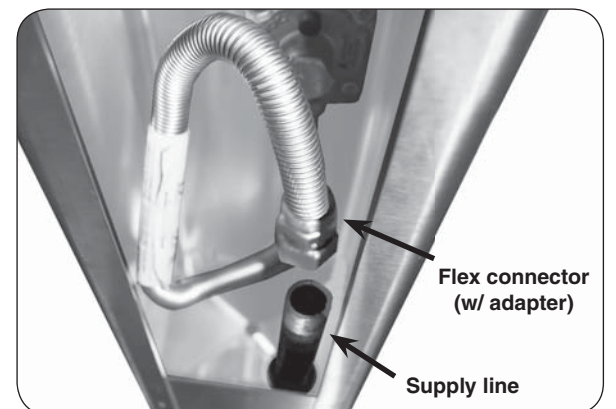

Fig. 18-3 Post interior detail
2. Verify that the gas supply line fits through the gas line clearance hole in the bottom of the post (see Fig. 18-3). The clearance hole is the larger of the two holes in the bottom of the post and is off center.